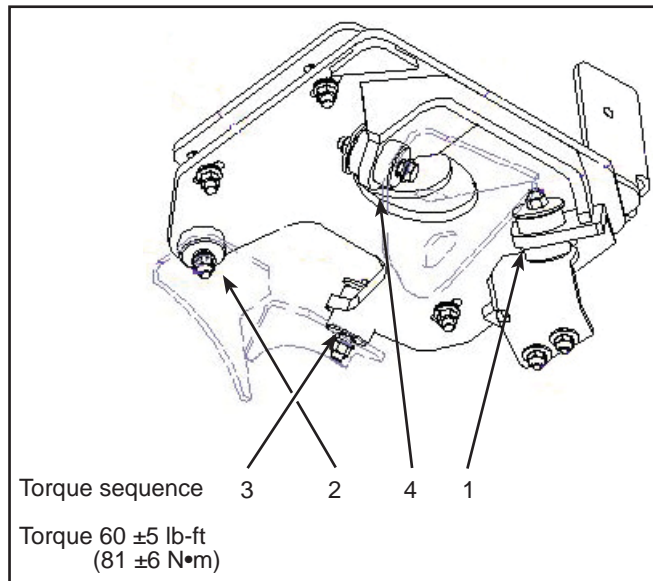

Figure 4 - Rubber Mounts Torque Sequence
- 1.7. Apply specified torque and torque sequence. See Figure 4.